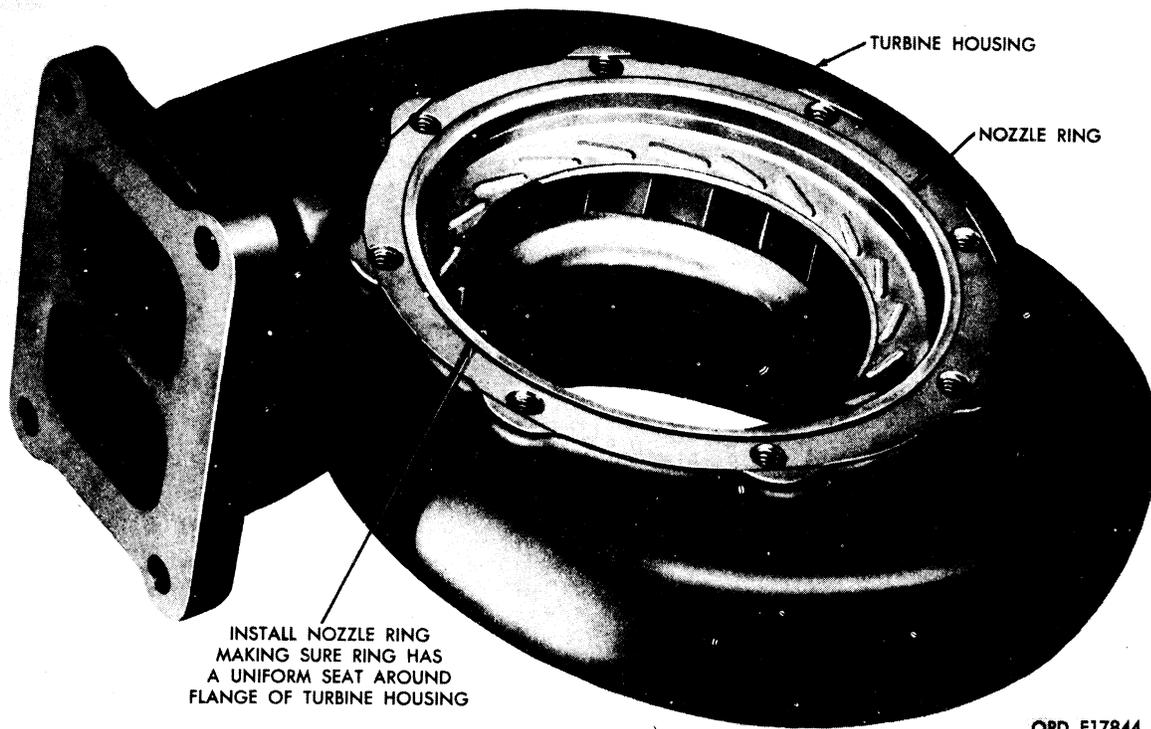

FIGURE 42. INSTALLING NOZZLE RING IN TURBINE HOUSING - TURBOCHARGERS 7748900, 10935279, AND 53591-C-139552.
a. Assembly Instructions. Paragraphs 36 through 50 are supplemented with illustrations, figures 42 through 61, that depict only those assembly operations which cannot be accomplished by merely reversing the sequence of and procedures for disassembly. Where the assembly instructions are the reverse of the disassembly instructions, reference is made to the pertinent disassembly instructions. The sequence of disassembly instructions ((1), (2), and (3)) for each paragraph should be performed in the reverse order ((3), (2), and (1)) to accomplish the assembly procedure.
Install nozzle ring in the turbine housing in turbochargers 7748900, 10935279, and 53591-C-139552. Refer to figure 42.